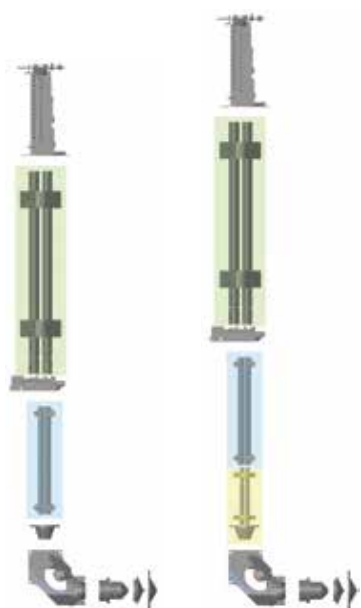

Figure 1. Left.) Single Quadrupole ICP-MS and Right.) Triple Quadrupole ICP-MS.
A single quadrupole (SQ) is typically an arrangement of a mass filtering quadrupole and a CRC. When compared to a triple quadrupole, both systems have a CRC (highlighted in blue in Figure 1) and an analyzing quadrupole (highlighted in green in Figure 1). The triple quadrupole, in comparison, has an additional quadrupole (highlighted in yellow in Figure 1) situated prior to the CRC.